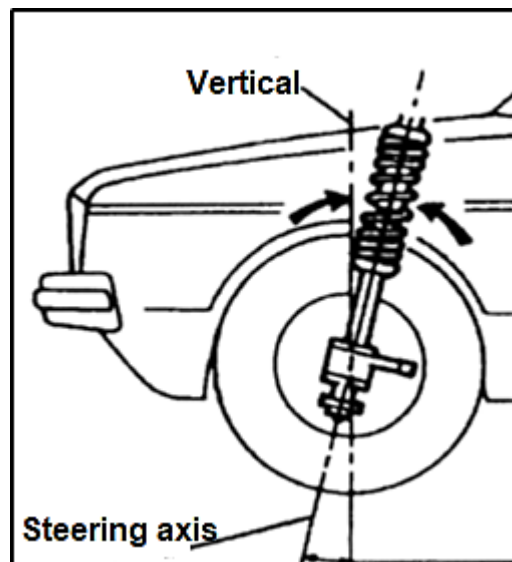

FIGURE 4.12
4.12 What type of alignment is displayed in FIGURE 4.12 below?